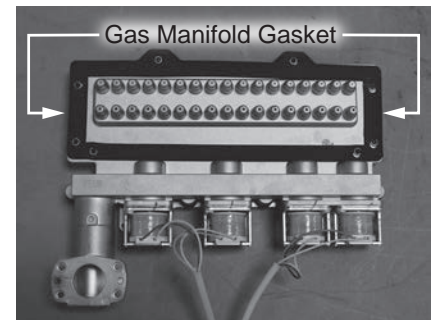

Figure 95 - Replacing gas manifold gasket
- 27** Locate the gas manifold gasket provided in the kit. Use a plastic scraper to gently scrape old insulation gasket clean from gas manifold. Confirm assembly surface is free of any debris or leftover insulation. Install new gasket to gas manifold. See Figure 95.